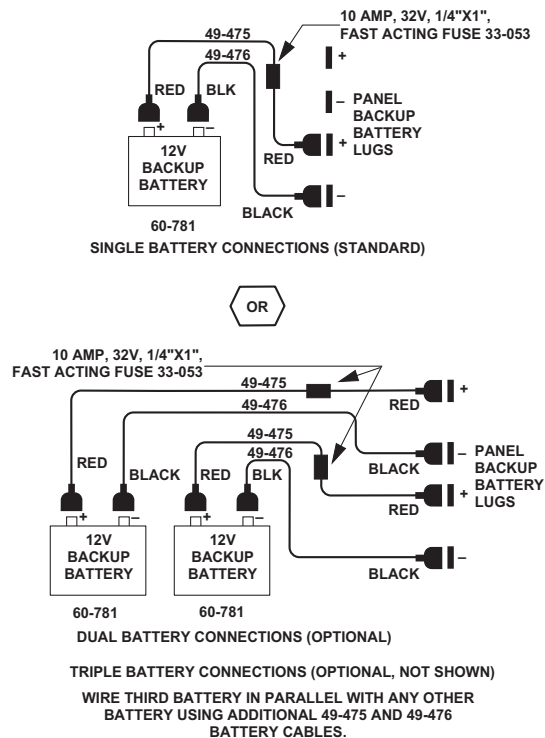

Figure 21. Connecting Backup Battery(s)
- Connect the black battery wire(s) from the panel circuit board negative (-) battery spade lug(s) (located on the left side of the board) to the negative (-) battery terminal (Figure 21).